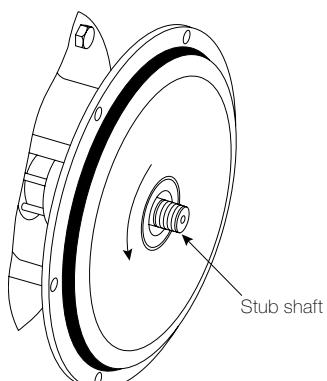

Fig. 12.2.1d Pump without impeller
- Ensure that the direction of rotation of the stub shaft is anti-clockwise as viewed from the pump inlet (Fig. 12.2.1d)